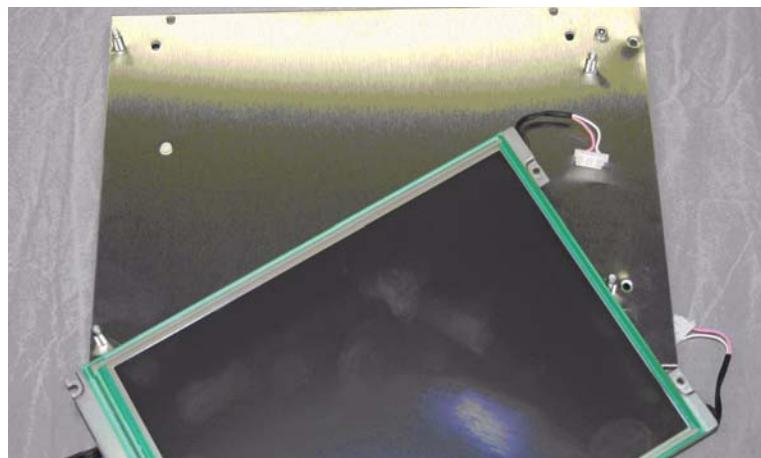

Figure 5-15: LCD and Touch Screen - Removal
- 8** Remove the LCD Touchscreen from the mounting plate (Figure 5-15).